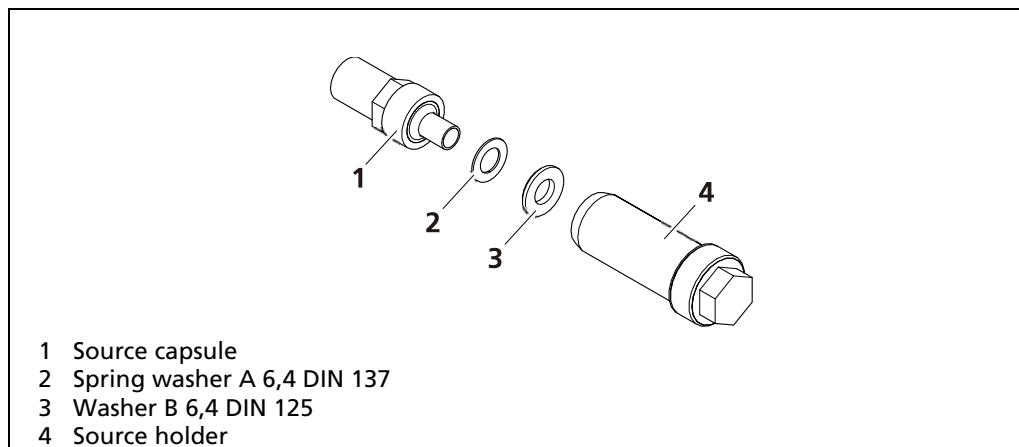

Fig. 11 Replacing the source capsule
1. Loosen the source capsule (Fig. 11, item 1) from the source holder (Fig. 11, item 4).
2. Remove the spring washer (Fig. 11, item 2) and the washer (Fig. 11, item 3).